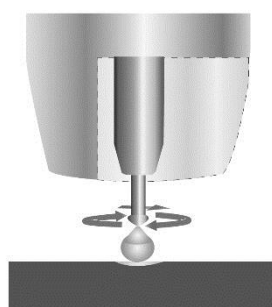

Fig. 31
4. The pinch causes the forming droplet to separate and fall towards the now creating weld pool (Fig. 31).